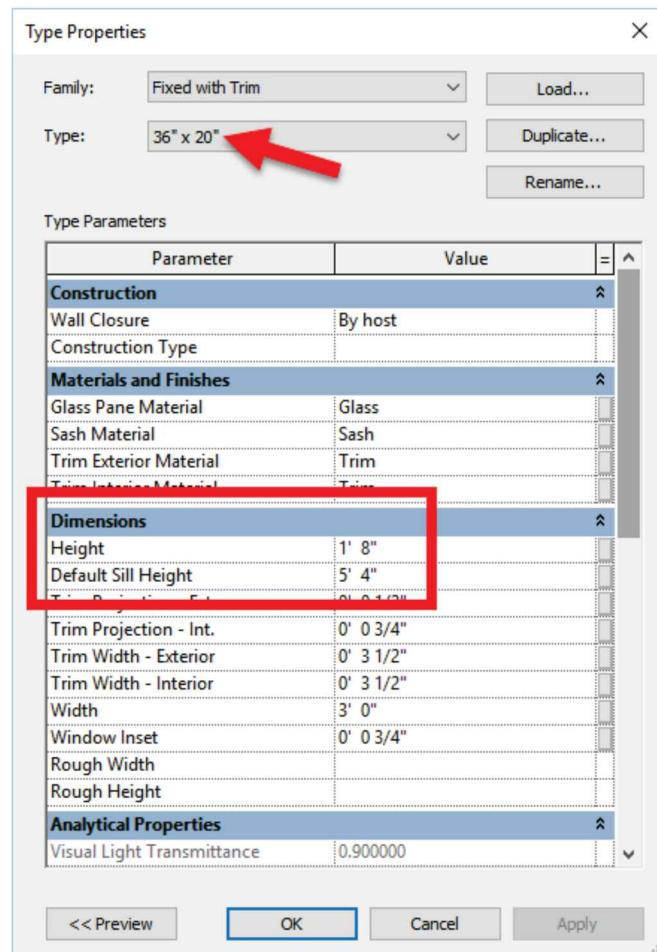

FIGURE 5-4.15 Type Properties: New predefined window size
23. Change the *Height* parameter to **1'-8"** (Figure 5-4.15).